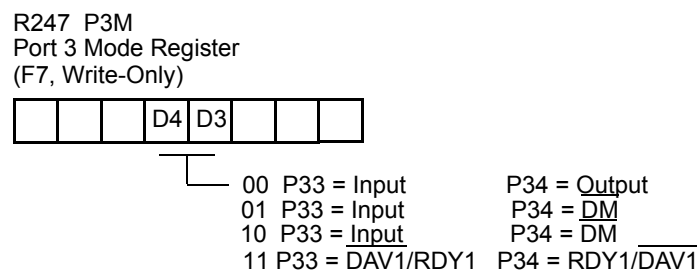
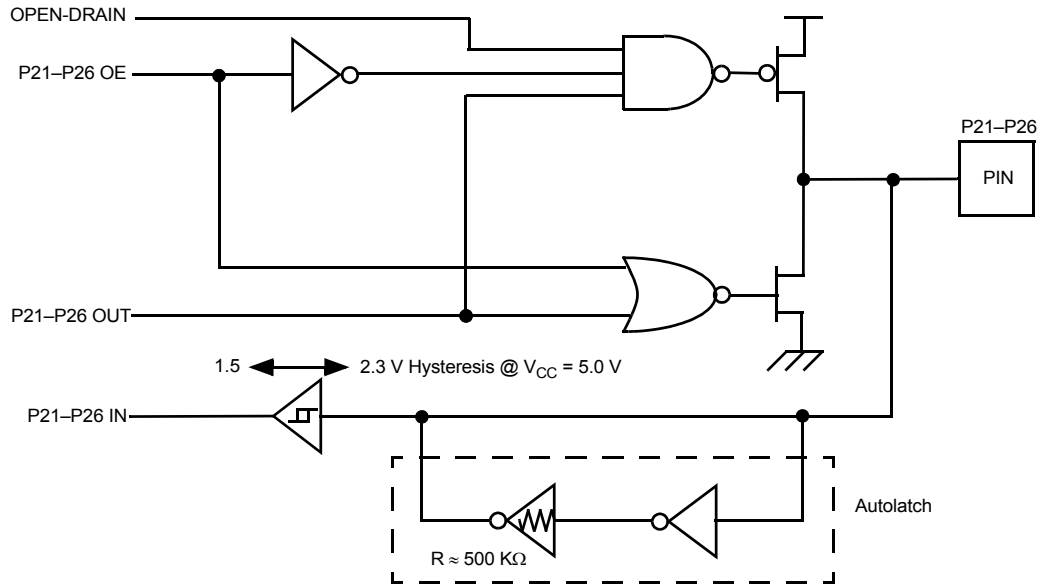
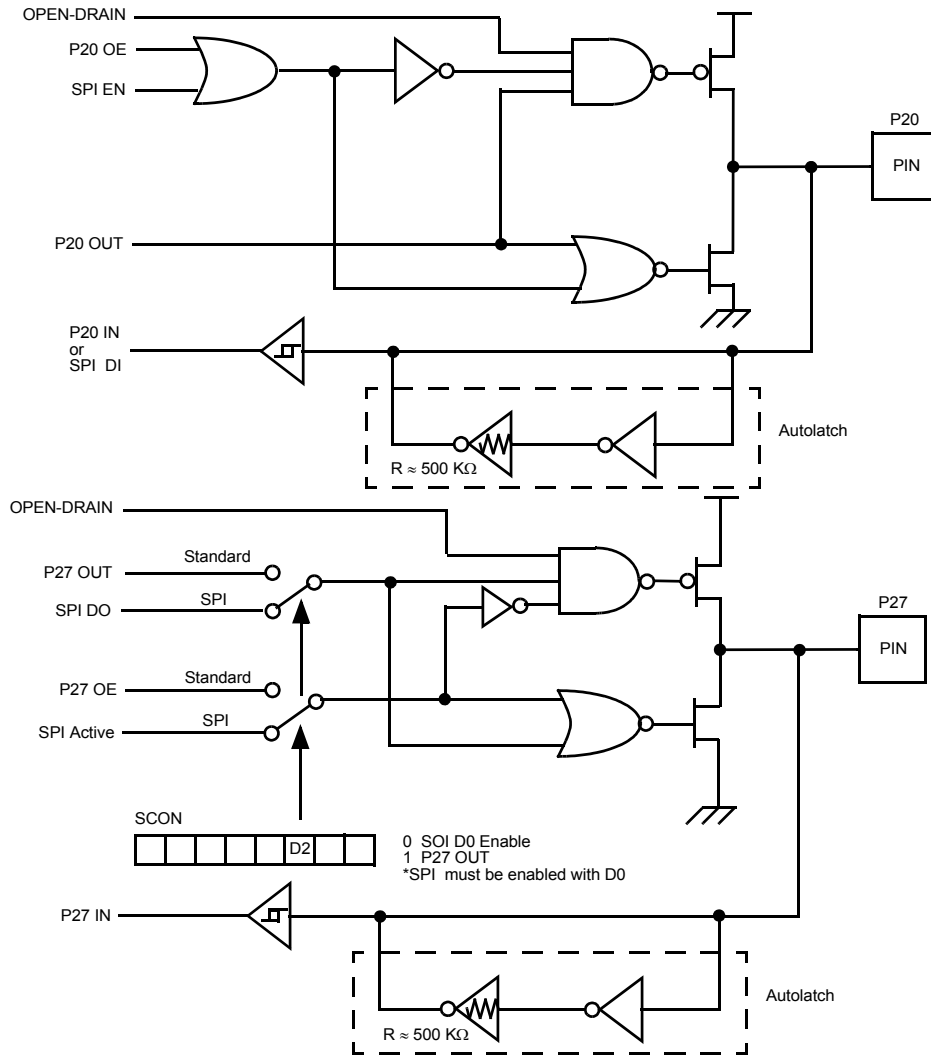

Figure 37. Handshake Operation
Figure 39. Port 2 Configuration with Open-Drain Capability, Autolatch, and Schmitt-Trigger
Figure 41. Port 2 Configuration with Open-Drain Capability, Autolatch, Schmitt-Trigger and SPI
When used as an I/O port, Port 1 can be placed under handshake control by programming the Port 3 Mode register bits D4 and D3 both to 1. In this configuration, handshake control lines are DAV1 (P33) and RDY1 (P34) when Port 1 is an input port, or RDY1 (P33) and DAV1 (P34) when Port 1 is an output port. See Figure 37 through Figure 39 on page 53.
Port 2 can be an 8-bit, bidirectional, CMOS- or TTL- compatible I/O port. These eight I/O lines can be configured under software control to be an input or output, independently. Input buffers can be Schmitt-Triggered, level-shifted, or a single trip point buffer and may contain autolatches. Bits programmed as outputs may be globally programmed as either push-pull or open-drain. Low-EMI output buffers can be globally programmed by the software, an OTP program option, or as a ROM mask option. In addition, when the SPI is featured and enabled, P20 functions as data-in (DI), and P27 functions as data-out (DO). Refer to specific product specifications for exact input/output buffer type features available. See Figure 39 on page 53 through Figure 41 on page 54.